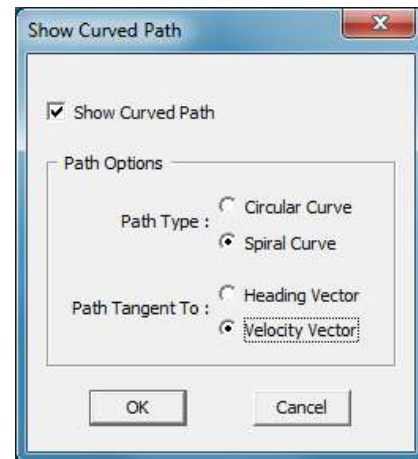

Figure 1 - *HVE*'s new Show Curved Path dialog
- **Show Curved Path Dialog** - This dialog (see Figure 1) allows the user to visualize the post-impact vehicle path for a reconstruction-type program (e.g., *EDCRASH*). It includes two important options: